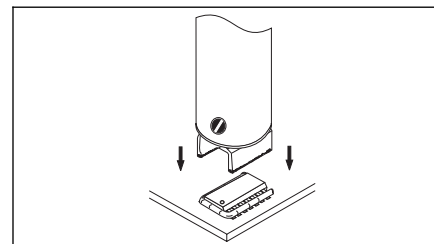

Figure 3 Position Tip
8. Lower tip over component contacting ALL leads with tip. (See Figures 3 & 4.)